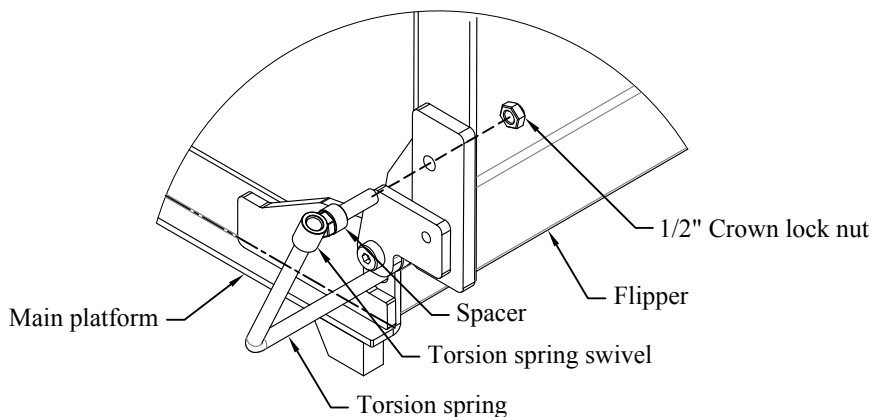

Figure 8: Torsion spring installation.
2. **ROTATE** the torsion spring to the position indicated in (Figure 8).
3. **SLIDE** the driver side torsion spring into the platform, make sure the spring is on the top side (towards tread plate) of the torsion spring capture plate (Figure 8).
4. **ROTATE** the flipper to the verticle position (Figure 8).
6. **INSTALL** the torsion spring swivel with the spacer on the torsion spring and slide both into the platform (Figure 8).
7. **SECURE** the torsion spring swivel using the 1/2" crown lock nut (Figure 8).